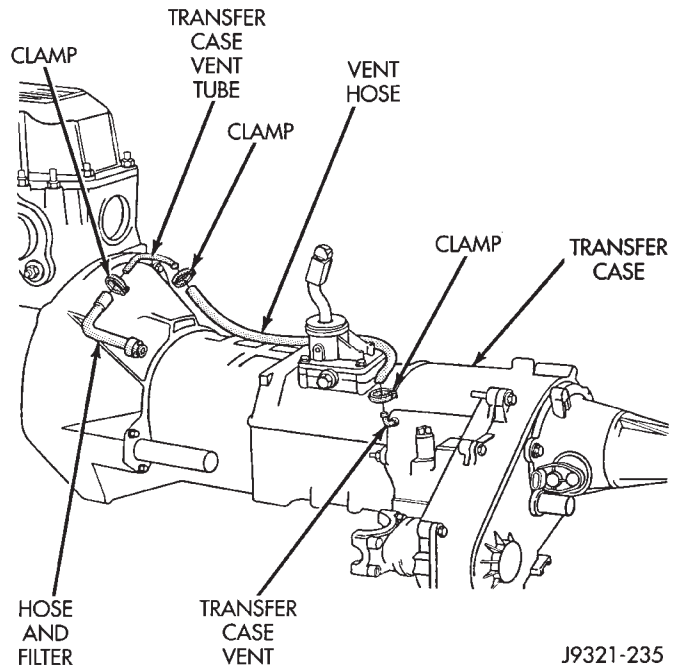

Fig. 8 Transfer Case Vent Hose Routing
(7) Connect vent hose to transfer case vent (Fig. 8).
(8) Align and connect propeller shafts. Tighten shaft attaching bolts to 19 N•m (170 in. lbs.) torque.
(9) Fill transfer case with Mopar Dexron II automatic transmission fluid.
(10) Install rear crossmember if removed. Tighten crossmember bolts to 41 N•m (30 ft. lbs.) torque.
(11) Remove transmission jack and transmission support stand.